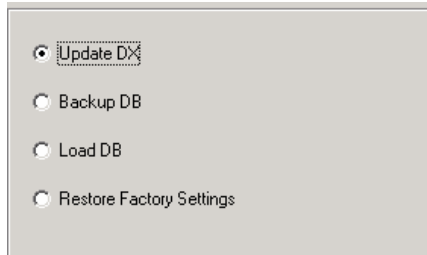

Figure 61 Update Options screen
3. Click **Next**. The Update Options screen appears. See Figure 61.